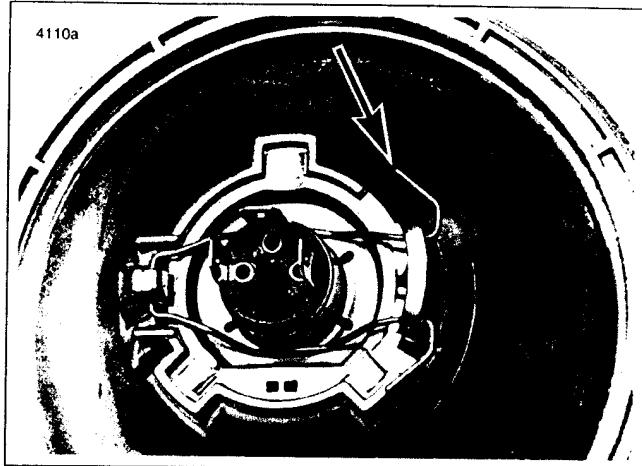
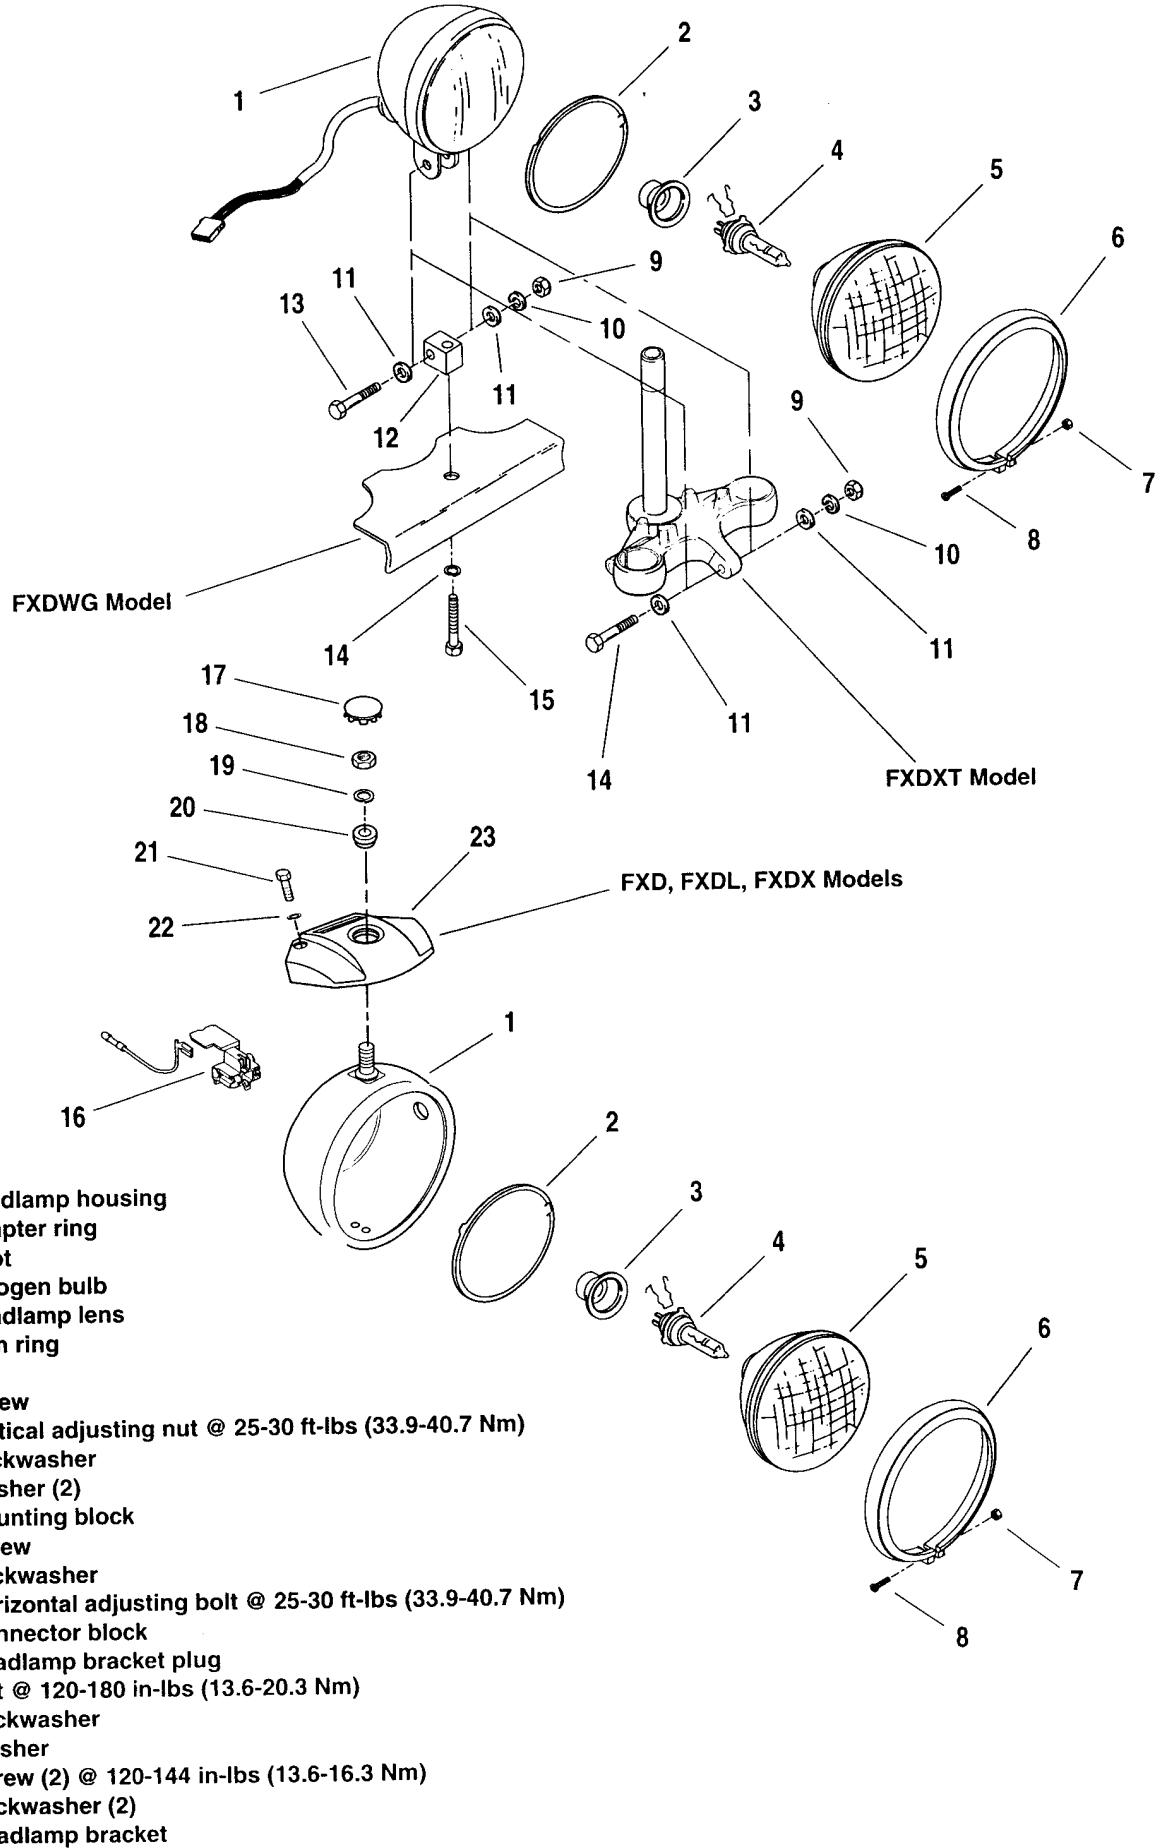

Figure 8-34. Wire Retaining Clip
Figure 8-35. Dyna Glide Headlamps
1. See Figure 8-35. Loosen trim ring clamp screw (8) and nut (7). Remove trim ring (6).
2. Pull connector block (16) from bulb (4) prongs.
3. Remove rubber boot (3) from back of headlamp lens (5).
4. See Figure 8-34. Squeeze wire retaining clip ends to unhook them from notches in headlamp assembly.
1. See Figure 8-35. Loosen trim ring clamp screw (8) and remove trim ring (6).